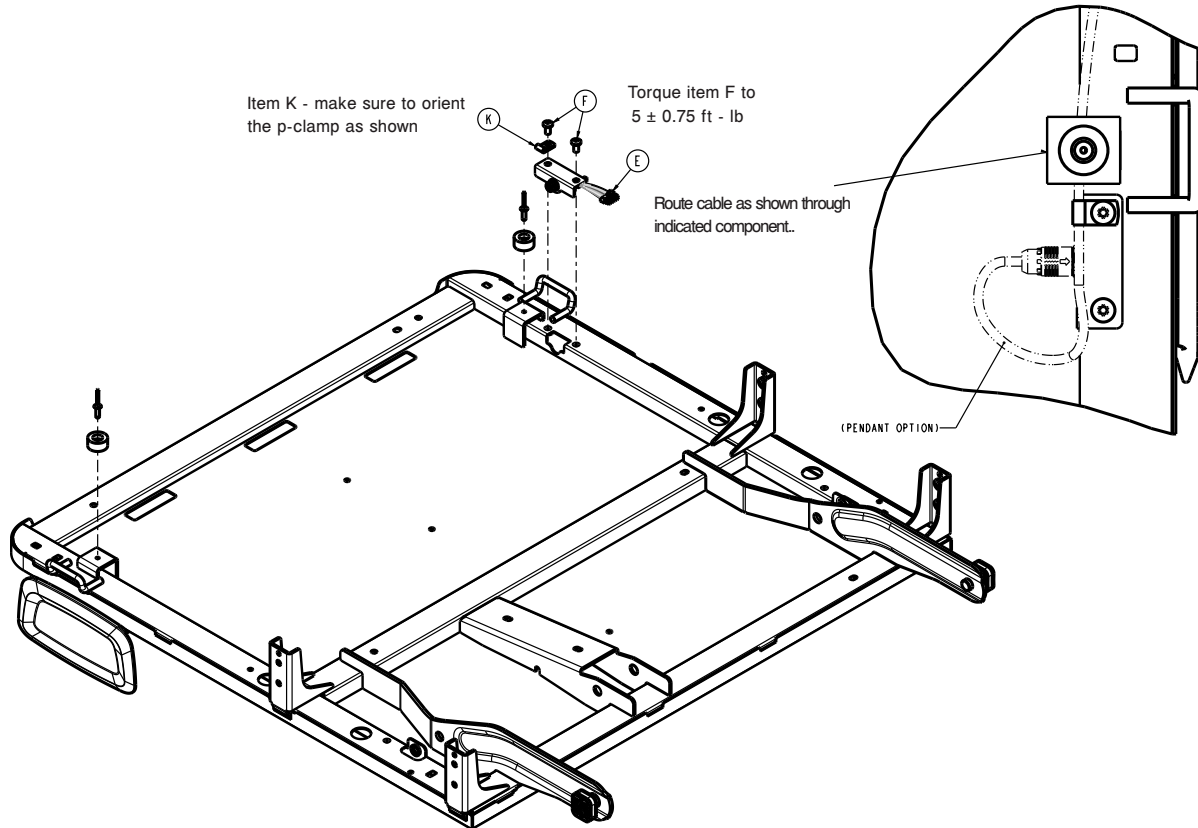

Figure 81 – Attaching the pendant
7. Using a T30 Torx driver, remove the two screws (F) that secure the pendant connector (E) to the Fowler (Figure 81).
8. Route the pendant cable through the Fowler weldment (Figure 81).
9. Using a T30 Torx driver, install the two screws (F) that secure the pendant connector (E) to the Fowler (Figure 81).
Note - When you install the head end screw, install the supplied p-clamp (K) over the pendant cable. Leave a service loop, and then tighten the screw (Figure 81).